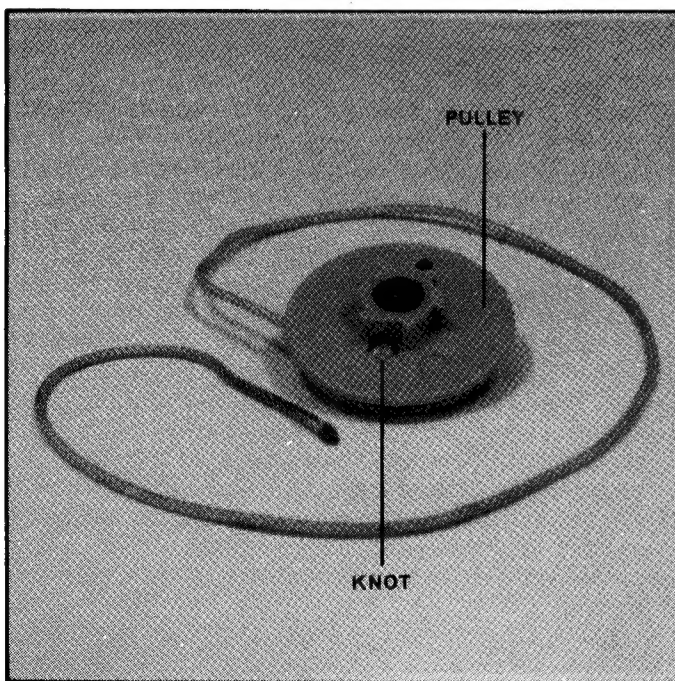

**FIGURE 7.5**
A. If the recoil spring does come out of the housing it can be re-installed using two pair of locking pliers such as vise grip, or equivalent, small enough to insert through the side louver openings of the housing. Remembering that the spring winds a clockwise direction from the outside winding working inward. Place the hooked end of the spring around the post inside the housing. Insert one of the pair of pliers through the side louver of the housing, across the top of the post and extending approximately 3/8 inch to the inside. Clamp the pliers firm but not tight enough to damage the housing. Now locate the second pair of pliers directly across on the opposite side and clamp them firm, allowing to extend approximately 3/8 inch to the inside. Wind the spring one coil at a time placing it under the extended jaws of the pliers. When completely wound carefully remove the pliers. See Figure 7.5.
B. If it is necessary to replace the spring, the replacement is furnished pre-wound for assembly. Leave the retainer on the new spring to keep it wound and place the spring into the housing. Position the hooked end of the outer winding of the spring around the post inside the housing. Remember that the spring winds in a clockwise direction from the outside sending working in inward. With the spring in position carefully remove the retainer. Refer to Figure 7.5.